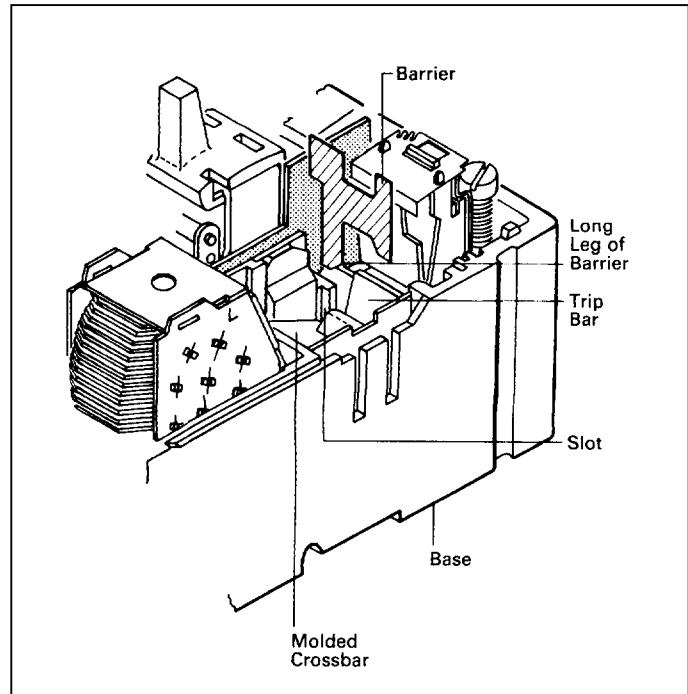

Fig. 2-3. Barrier Installation Position (Left Accessory Mounting Cavity Shown)
- 2-7. Slide accessory barrier into position between molded crossbar and trip bar. Long leg of barrier must go into slot in base (see Fig. 2-3).